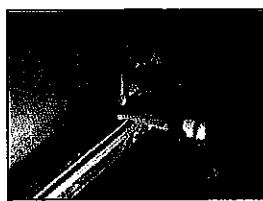
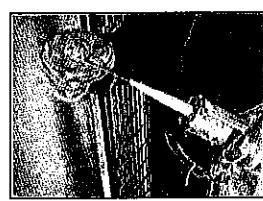

Figure 35
Figure 36
2. Cut the Sealant (page 13) tube (**Figure 35**) end off at a 60° angle. The hole should be about the diameter of a ballpoint pen. Use a coat hanger or longer pin to poke a hole in the Sealant tube to start the flow (**Figure 36**).